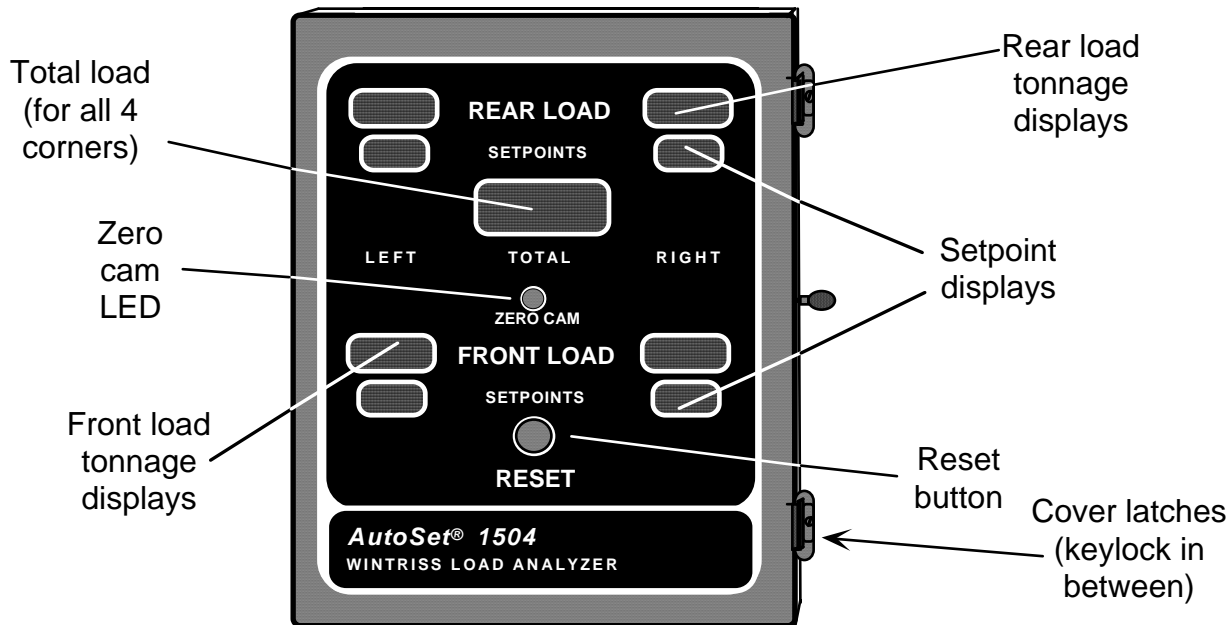

Figure 1-1. AutoSet 1504 front panel
2. Drill holes for mounting (see Figure 1-1). Shockmount studs are 5/16–18. Tap holes and mount the enclosure using the enclosed shock mounts. Use a No. 7 drill and 1/4-20 tap.